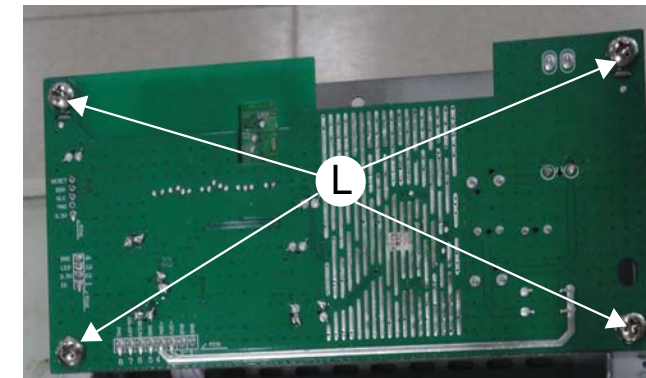

Figure 13
1) Loosen 4 screws "L" on the top of AMP&LED Boards as shown in figure 13.